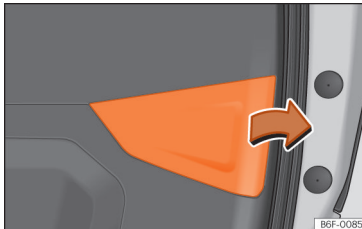

Fig. 109 Rear lid open: remove the lid.
3. Remove the rear lid cover in the direction indicated »» Fig. 109.